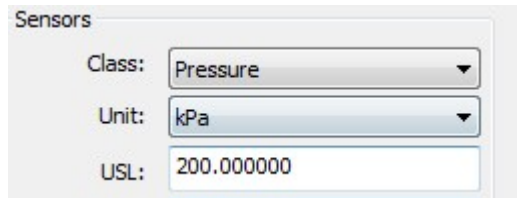

Figure 5.58 Upper Range Selection of Sensor Range
1. Select "detailed Design"->"Sensor"-> drop-down box corresponding to"Sensor range limit", as shown in Figure 5.58